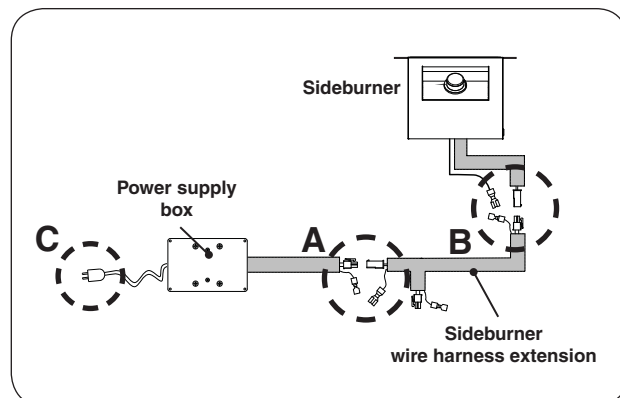

Fig. 17-1 Connect sideburner to power supply
3. Connect the power supply box connectors to the sideburner wire harness extension, as shown in Fig. 17-1, **A** (molex and ground wire connections).
4. Connect the sideburner wire harness extension to the sideburner, as shown in Fig. 17-1, **B** (molex and ground wire connections).
5. Connect the cord coming from the power supply box to a **120VAC (15 AMP minimum) GFCI GROUNDED 3-wire receptacle**. See Fig. 17-1, **C**, and 17-2. The GFCI receptacle must be a WEATHER-PROOF IN-USE COVERED RECEPTACLE.